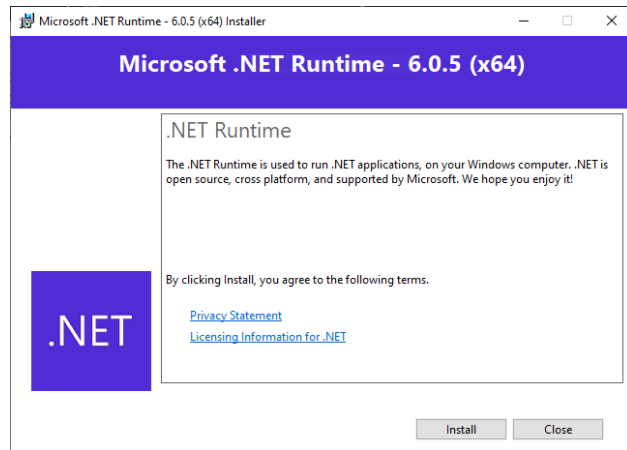
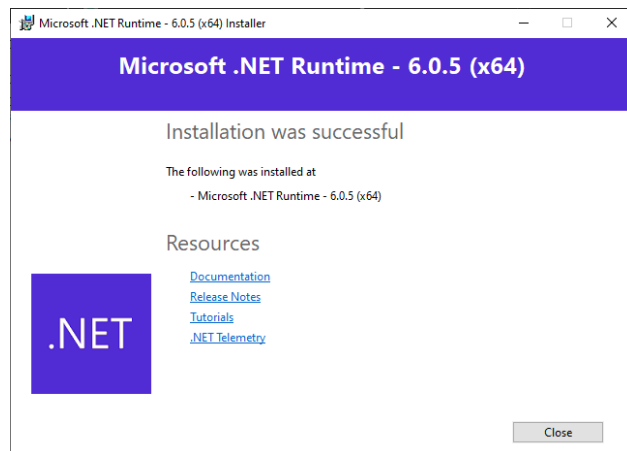

Figure 10: .NET runtime installation window.
Figure 11: .NET runtime successful installation window.
6. (Optional) In case the .NET runtime needs to be installed, click *Install* in the .NET runtime installation window (Fig.10). In case of successful installation, the window shown in Fig.11 will appear.